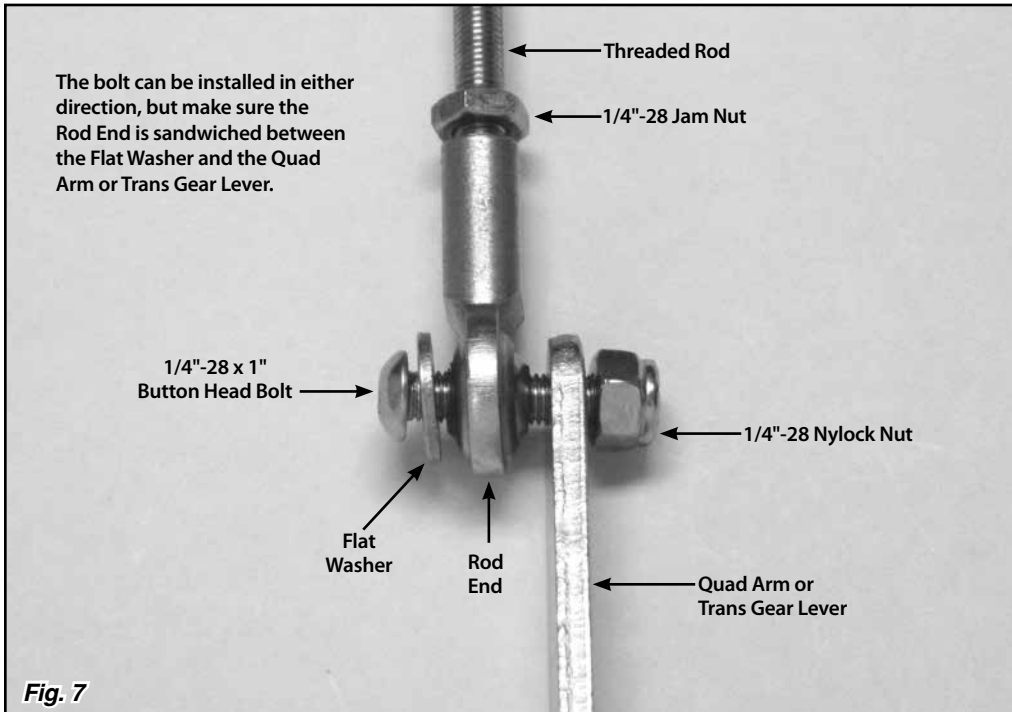
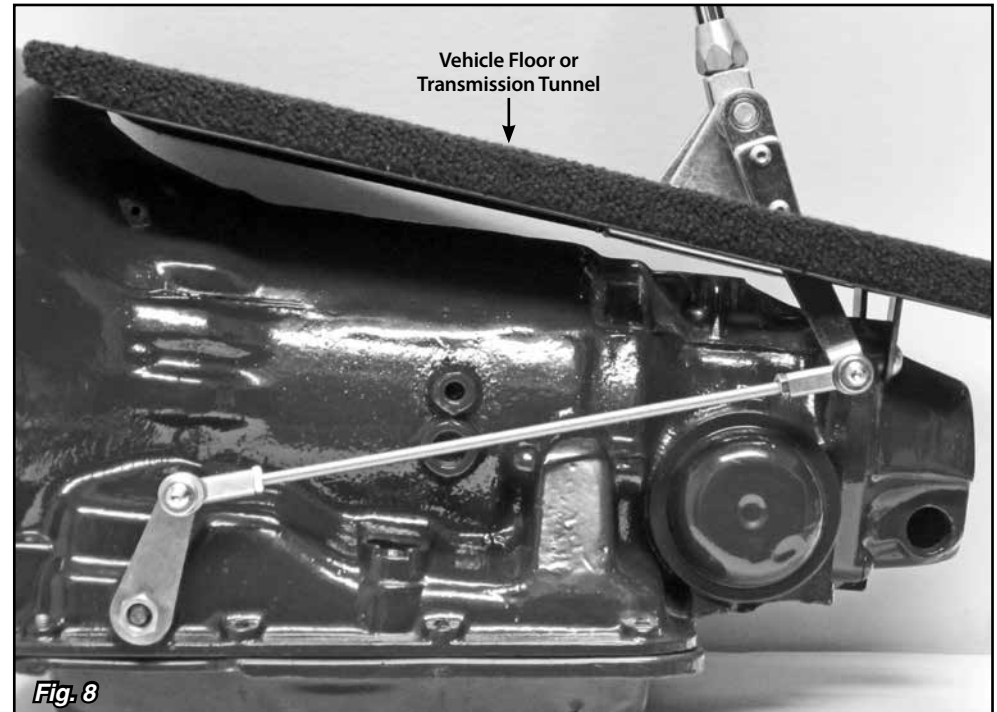

Fig. 7
Fig. 8
**Step 11:** Make sure that two 1/4"-28 jam nuts are installed on the threaded rod, one at each end. Install a rod end onto each end of the threaded rod. Position the rod ends on the inside or outside of the quad arm and trans gear lever so that the threaded rod is as straight as possible. Attach the threaded rod assembly to the quad arm and trans gear lever using the 1/4"-28 x 1" button head bolts, flat washers, and nylock nuts as shown in **Fig. 7**. The button head bolts can be installed from either direction, but make sure the rod ends are sandwiched between the flat washers and the quad arm or trans gear lever. **Fig. 8**